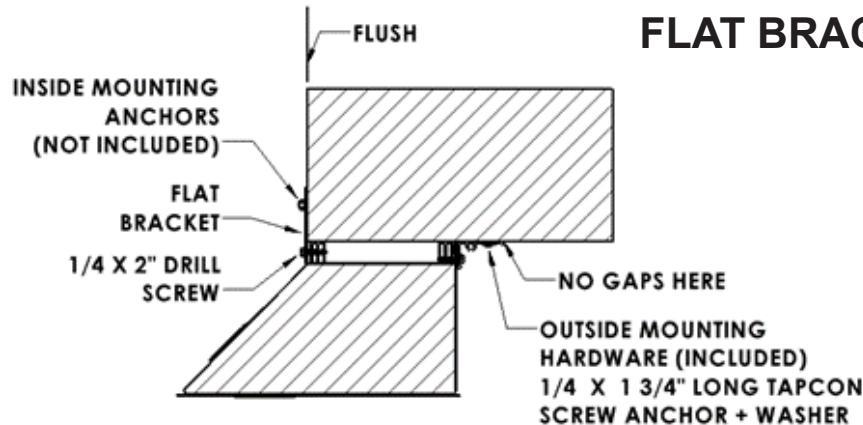
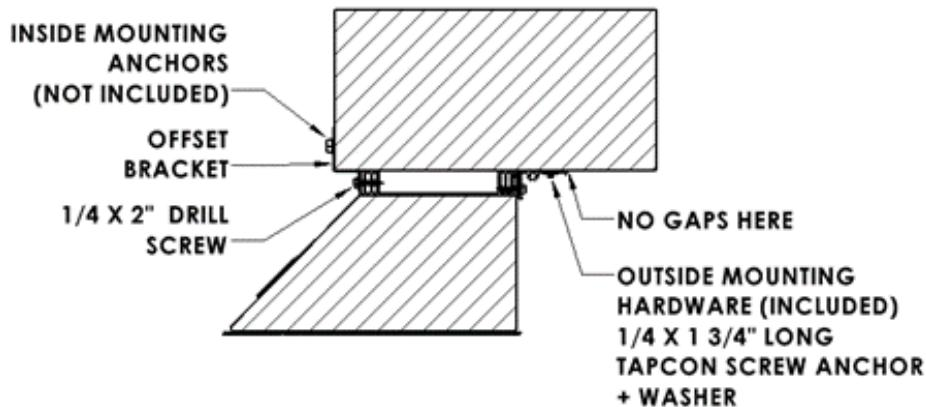
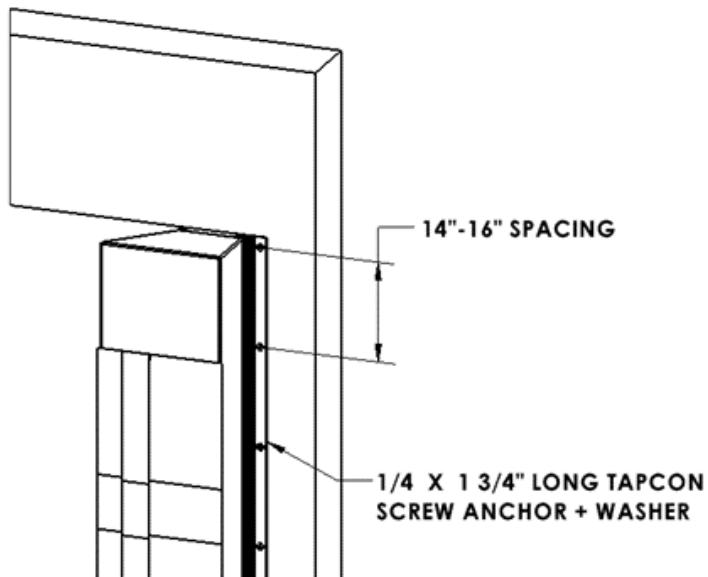

FIGURE 7
FIGURE 8
FIGURE 9
6. **MOUNT RIGHT SIDE PAD (D) TO WALL:**
- b. Mount the Right-Side Pad (D) on the inside edge of the door jamb ensuring the bottom of the Side Pad Backer is flush with the dock floor (Figure 7 & Figure 8).
- e. The anchors with washers should be spaced 14"-16" apart and ideally placed in mortar joints when possible. Drill the holes into the bracket and wall for the Tapcon Screw Anchors using a 3/16" diameter masonry drill bit. Fasten each anchor with washer as shown (Figure 7, Figure 8 & Figure 9).